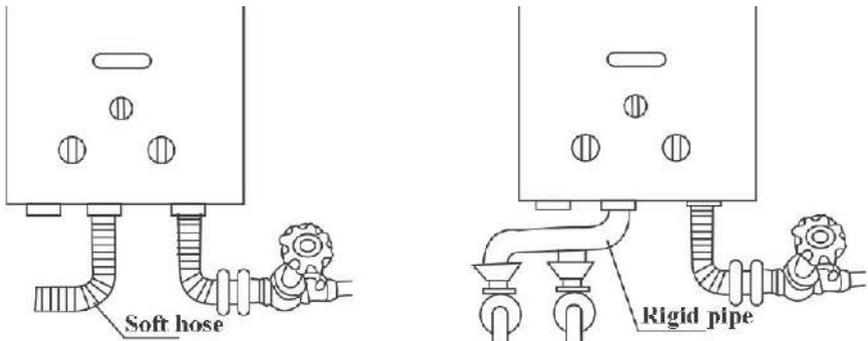

Fig. 6
c. The hot water supply pipeline can be connected by metal soft hose (as short as possible), or directly connected by a rigid water pipe. The rigid pipe is suitable for deoxidizing copper pipe or stainless steel pipe. For long-distance hot water supply, it is best to install a control valve on the hot water supply pipeline(Fig.6).